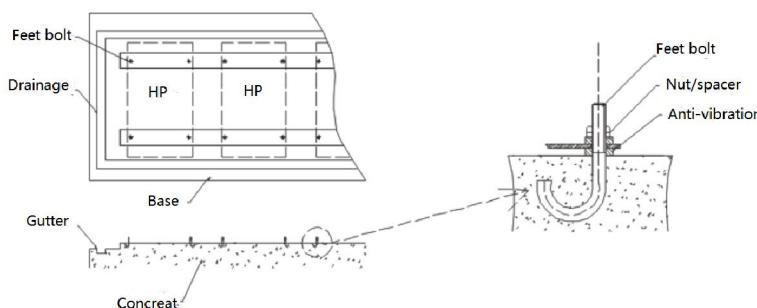

Figure 6. Schematic diagram of reserved foundation
- (2) In order to avoid scratches and deformation on the surface of the unit, please add a protective film on the surface of the unit during hoisting and transportation.
- (3) Before the final hoisting installation, the foundation needs to be checked again to prevent wrong with the actual object.
- (4) The unit has a lot of condensed water. Please consider installing a shock absorber between channel and the foundation around the foundation.
- When installing, each unit reserves the foundation according to the following outline drawing Figure 6)